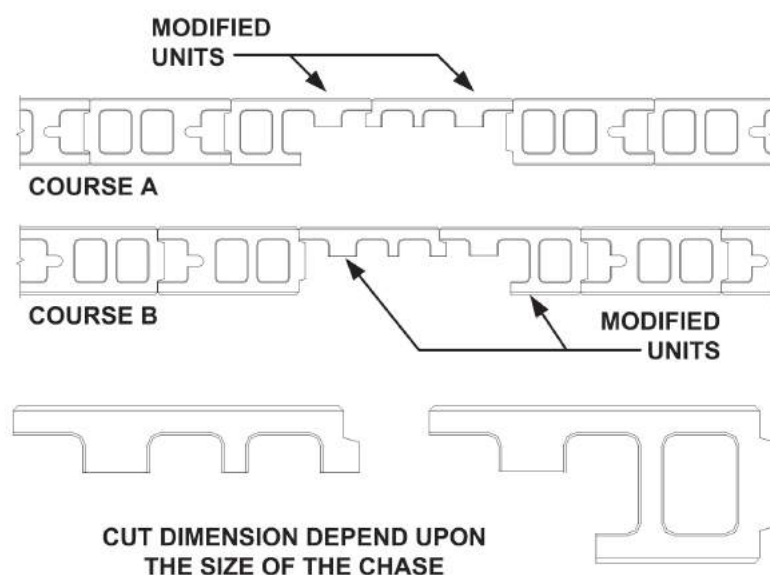

Fig. 5.14a
10. Modify the units in accordance with the specifications, and dry lay them into position (*Fig. 5.14a*). Measure the space to ensure it will accommodate the duct.